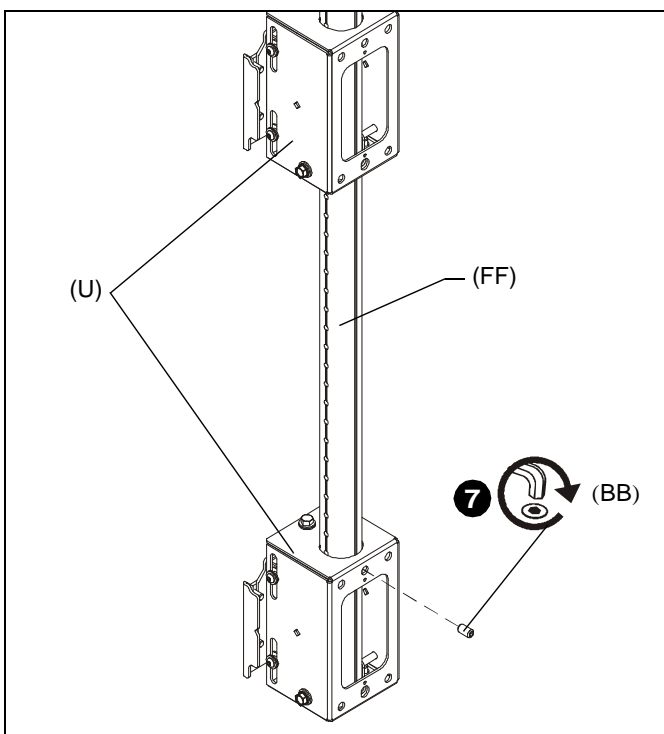

Figure 8
7. Fasten one 5/16-18 x 3/4" set screw (BB) into top center hole of array head. (See Figure 8)
8. Repeat for each remaining array head. (See Figure 8)